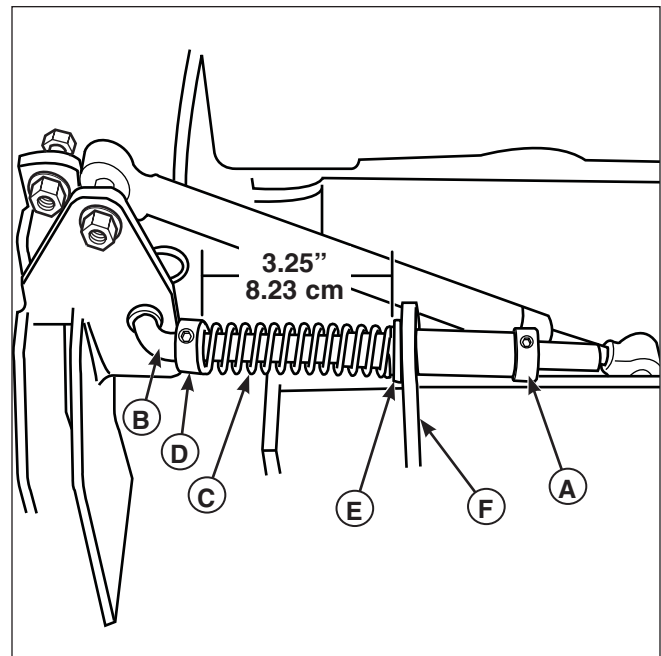

Figure 30. Neutral Return Spring Adjustment
3. Move the ground speed control levers out towards the neutral position. If the levers do not align with the notches in the neutral lock plate, it is necessary to adjust the neutral return rod (B, Figure 30).
2. Measure the length of the neutral return spring (C, Figure 30) it should be set at 3.25" (8.23 cm). If the spring does not measure 3.25" (8.23 cm) loosen the front set collar (D) and rear set collar (A), then move the front set collar forward or back on the neutral return rod (B) until the spring length equals 3.25" (8.23 cm). Retighten the front set collar.
3. Make sure that the neutral return bushing (E) is seated correctly in the spring stop plate (F).